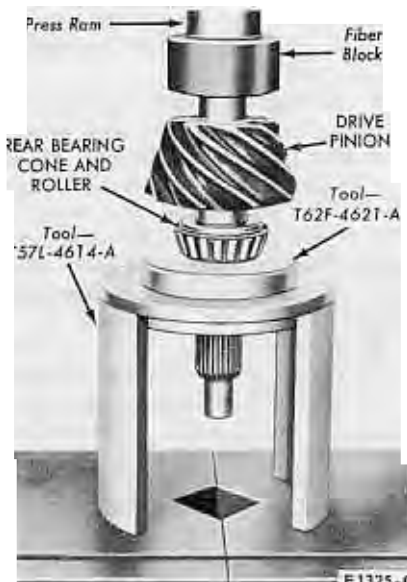

FIG. 46—Installing Pinion Rear Bearing Cone
bearing cone and roller on the pinion shaft (Fig. 46). On cars equipped with high performance engines use tool T57L-4621-B along with tool 757L-4614-A as shown in Fig. 46. Place a new spacer on the pinion shaft (Fig. 47).
2. Place the bearing retainer on the pinion shaft, and install the front bearing cone and roller in the retainer. Press the front bearing cone and roller into position with the same tools as used in Fig. 46 for front bearing installation. On cars with high performance engines, use